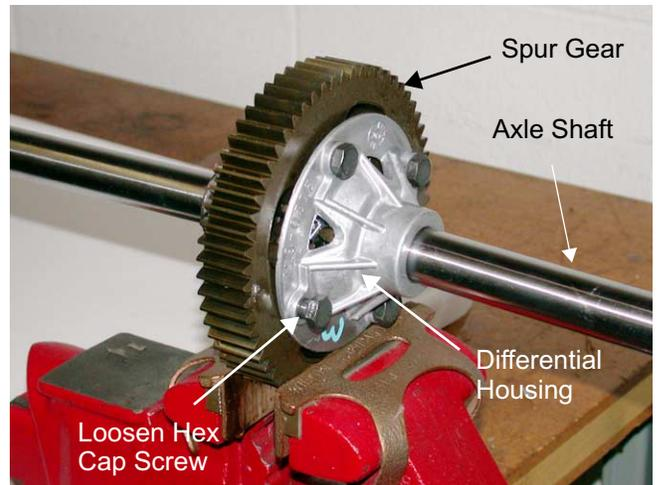

Figure 8.35
8.35. Place the 60 tooth differential spur gear into a soft jawed vice. See Figure 8.35.